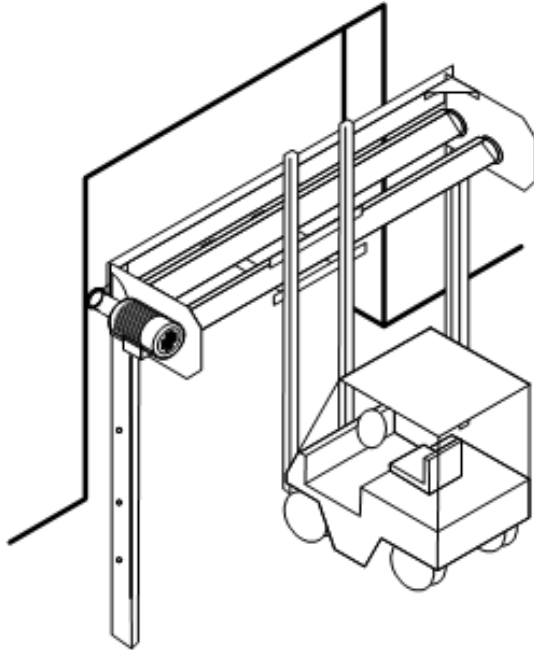

Figure 10: Placing the Door Against the Opening
2. Place the unit against the door opening while checking the levels (drum, struts and side posts) (Figure 10).